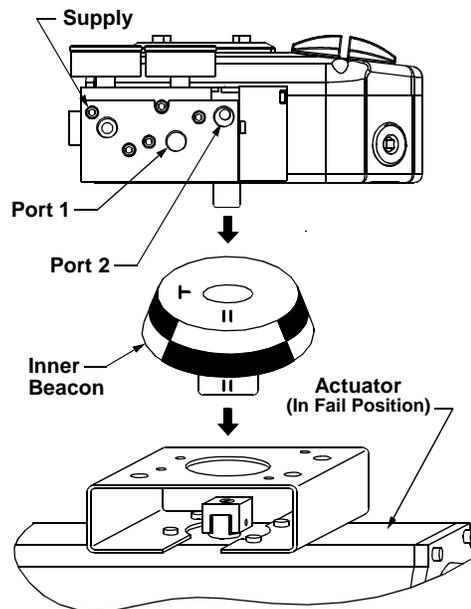

Figure 3-2
Step 2. Press fit the inner beacon to the inner beacon coupler. The inner beacon needs to be properly oriented. Use the symbols on the top of the inner beacon to mount as shown in Condition 1 or Condition 2. (See Figure 3-2). Condition 1 and Condition 2 show the placement of the inner beacon with respect to the positioner housing while the actuator is in the fail position.